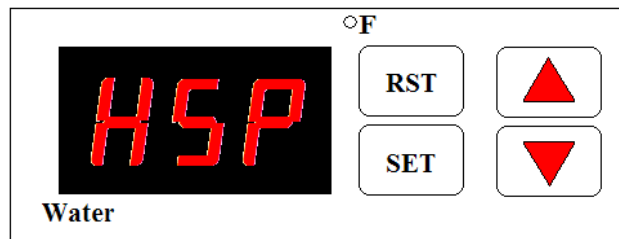

Figure 5
- Once the desired Set Point value is reached, press the SET key. The control will now display HSP again as shown in Figure 5 below.